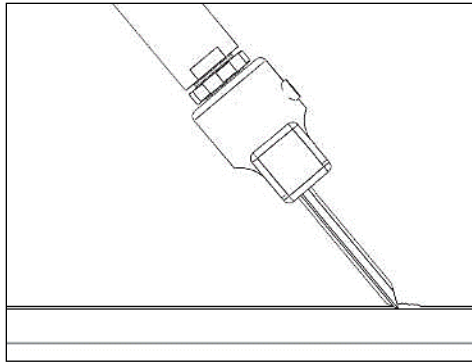

Figure 7. Initial Material Engagement
- 3.2.2. With the cutting edge of the TSB at a 35-45 degree angle to structure surface, pierce the coating, boot or tape material so the cutting edge is embedded in the material. See **Figure 7**.